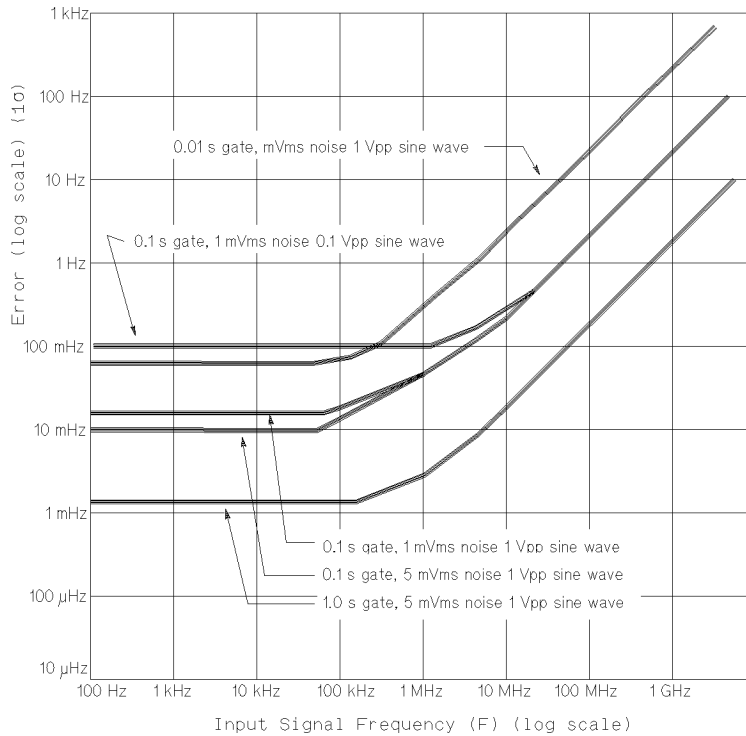

Figure 4-1. Frequency Resolution Error
* See definition 1. † See Figure 4-1. ‡ See definition 3. § See definition 2. ** 100 ps using 100 gate average. †† See definition 4. ‡‡ See definition 5. §§ Systematic error due to differential channel delay. Can be eliminated with optimized measurement technique (offsets, cable length, etc.). *** Frequency range is dependant on auto-trigger state. See Auto Trigger under Input Specifications for restrictions.